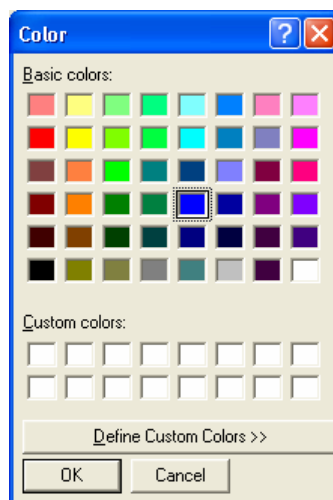

Figure 39 - Standard Colour Dialog
In each case, the standard colour dialog (Figure 39) is used to set the new colour. Forty-eight standard colours are available as well as an almost infinite number of user-defined custom colours.
1. Choose **Setup** ➔ **Graph Colours** ➔ **Current Lap** from the main menu. The Standard Colour Dialog (Figure 39) appears.
1. Choose **Setup** ➔ **Graph Colours** ➔ **Reference Lap** from the main menu. The Standard Colour Dialog (Figure 39) appears.
1. Choose **Setup** ➔ **Map Colours** ➔ **Track** from the main menu. The Standard Colour Dialog (Figure 39) appears.
1. Choose **Setup** ➔ **Map Colours** ➔ **Segments** from the main menu. The Standard Colour Dialog (Figure 39) appears.